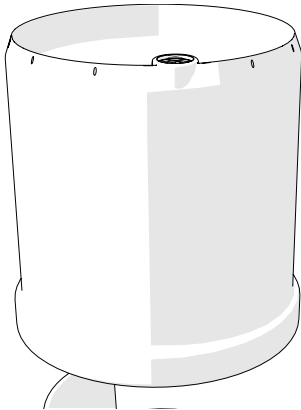

Figure 14 Downspout
- c. Check the downspout (Figure 14) for debris.